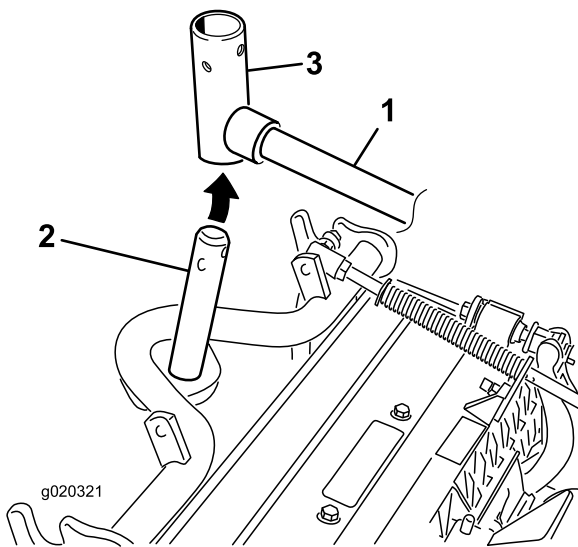

Figure 7
8. For the front cutting units, slide a cutting unit under the lift arm while inserting the carrier frame shaft up into the lift arm pivot yoke (Figure 7).
B. Insert the lift arm yoke onto the carrier frame shaft (Figure 7).